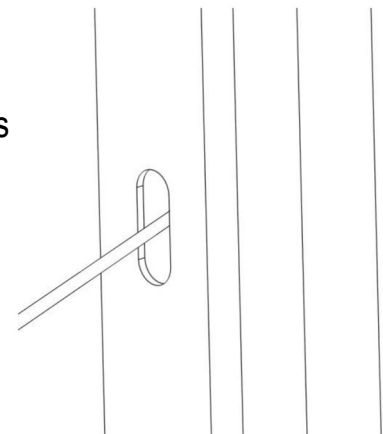

Figure 42: Cut a hole in the door jamb.
3. Cut a hole in the door jamb to fit the 7-pin connector. Feed the cable through the hole (Figure 42).